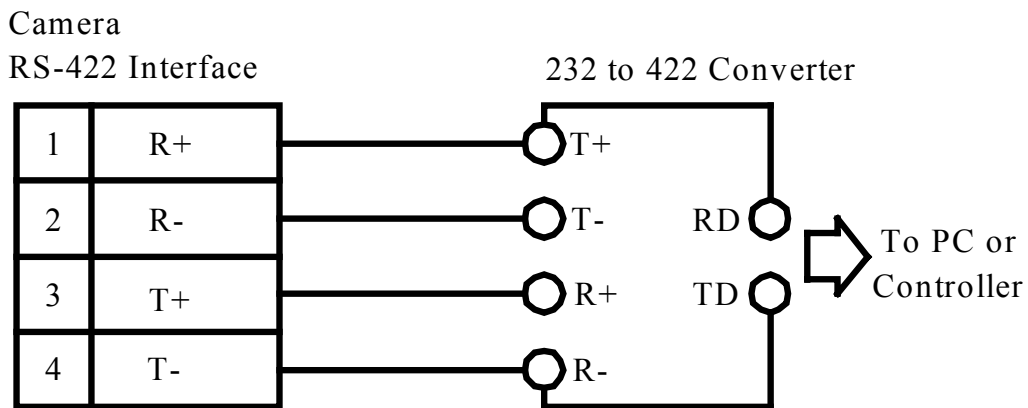

Figure 6-2
- RS-422 interface is used for communicating PELCO keyboard. Refer to Figure 6-2; connect R+ of the camera to T+ of the PELCO keyboard. Connect R- of the camera to T- of the PELCO keyboard.